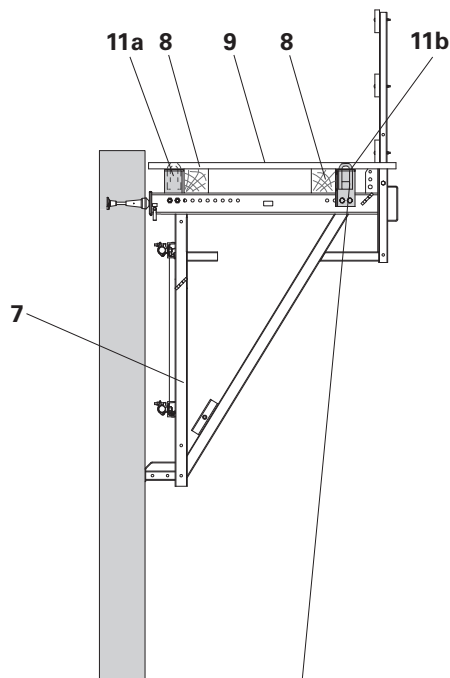

Fig. 8
Mount timbers on the angle plate (3) of the Platform Connection CB 160 by means of two wood screws (8.1). (Fig. 8 – 8a)